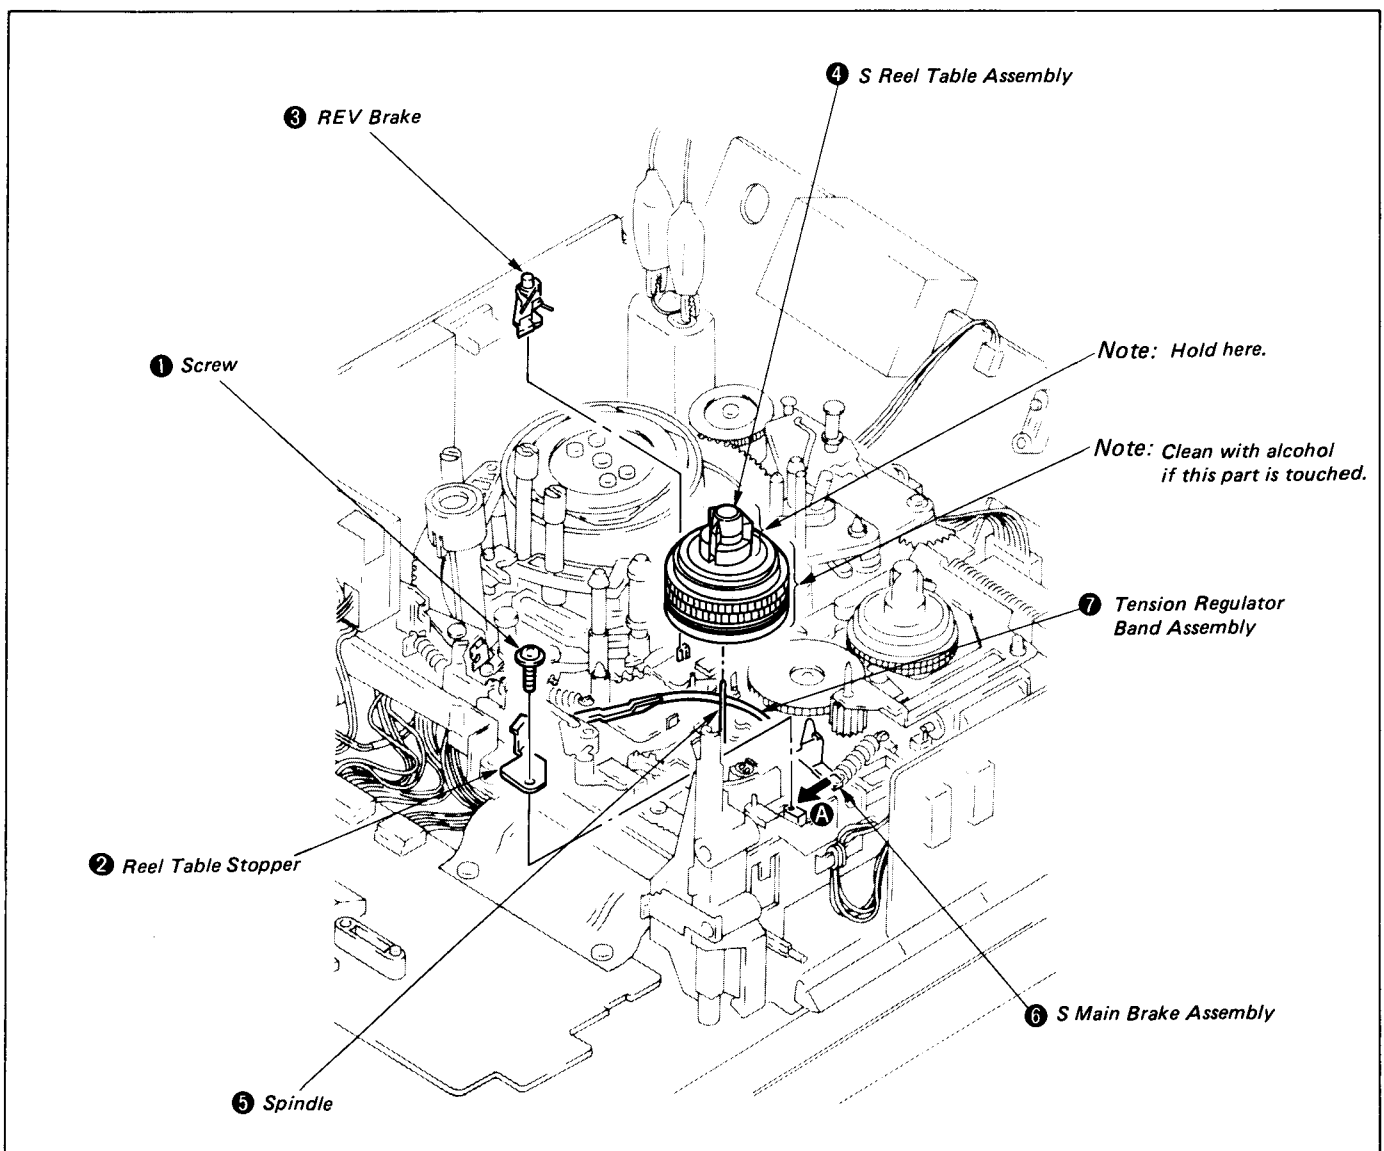

Fig. 1-8
- 3) Remove the screw ① and reel table stopper ②.
- 4) Remove the REV brake ③.
- 5) Remove the S reel table assembly ④. (See Fig. 1-8.)
Note: Be sure to hold the upper click part in hand when removing. (See the Note in Fig. 1-8.)
Note: Be sure to hold the upper click part in hand when mounting. (See the Note in Fig. 1-8.)
- 4) Remount the REV brake ③.
- 5) Remount the reel table stopper ② and tighten the screw ①. (See Fig. 1-8.)